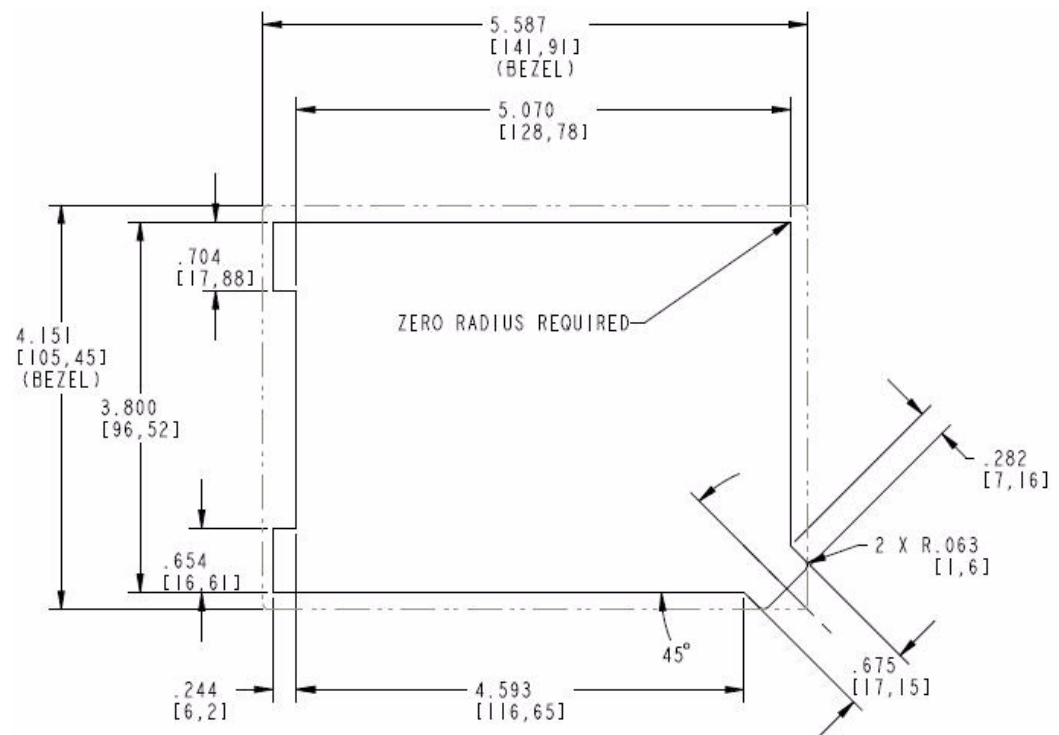

FIG. 11 NXD-430 Wall Mount panel dimensions
- Refer to **SP-2261-02** for detailed installation dimensions (reproduced in FIG. 11).
2. Cut out the surface for the touch panel using the dimensions shown in FIG. 11.